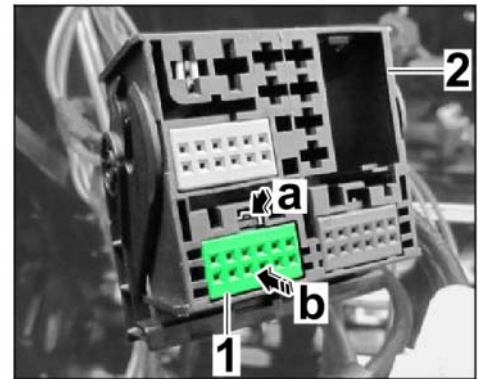

Figure 19
- 5.4.2 Release green plug socket ⇒ *Figure 19-1*- (⇒ *Figure 19-a*-) and press it out of the PCM central connector ⇒ *Figure 19-2*- (⇒ *Figure 19-b*-).